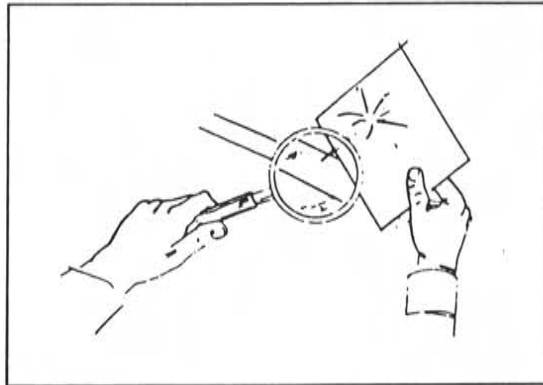

Figure 8
- Fluid escaping from a small hole may be nearly invisible under high pressure . . . use a piece of cardboard to locate suspected leaks (see figure 8).